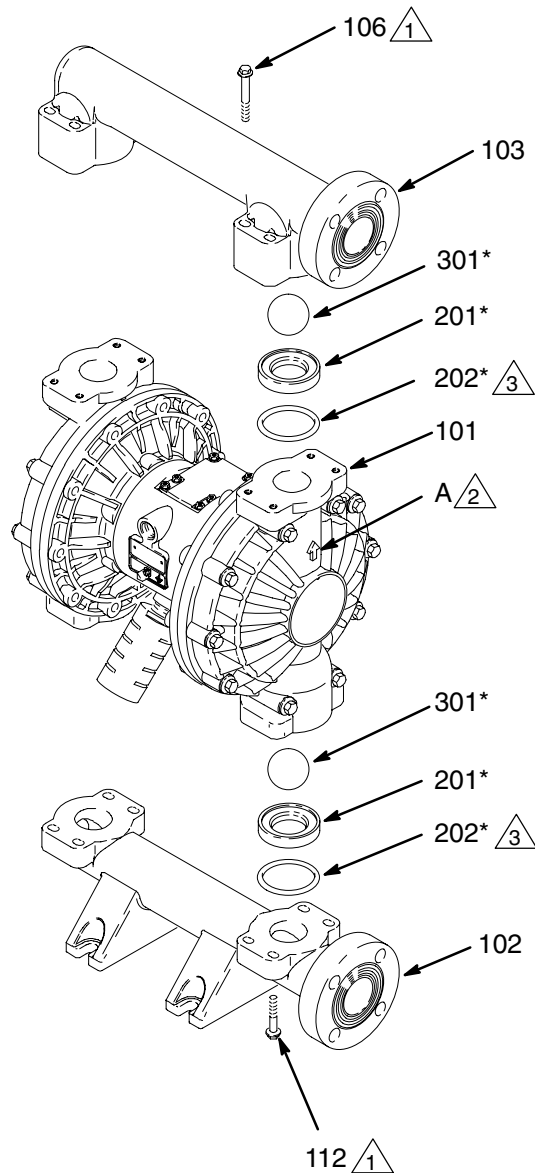

Fig. 11
3. Using a 10 mm socket wrench, remove the eight bolts (106) holding the outlet manifold (103) to the fluid covers (101). See Fig. 11.
4. Remove the seats (201), balls (301), and o-rings (202) from the manifold.
2. Reassemble in the reverse order, following all notes in Fig. 11. Be sure the ball checks are assembled **exactly** as shown. The arrows (A) on the fluid covers (101) **must** point toward the outlet manifold (103).
-  Arrow (A) must point toward outlet manifold (103).